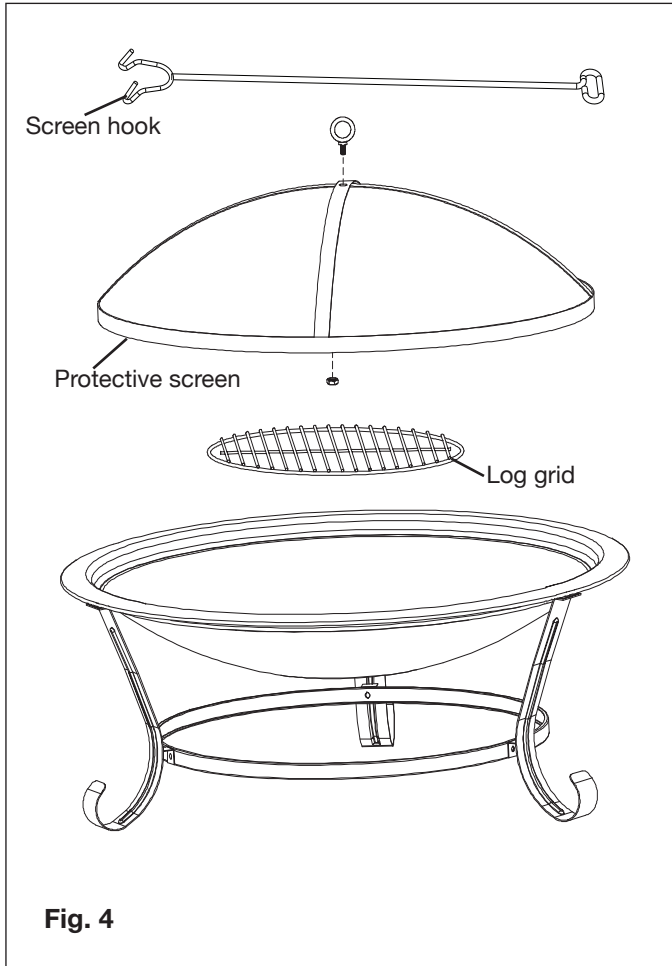

Fig. 4
4. Place the log grid on top of fire bowl followed by the protective screen and the screen hook (Fig. 4).